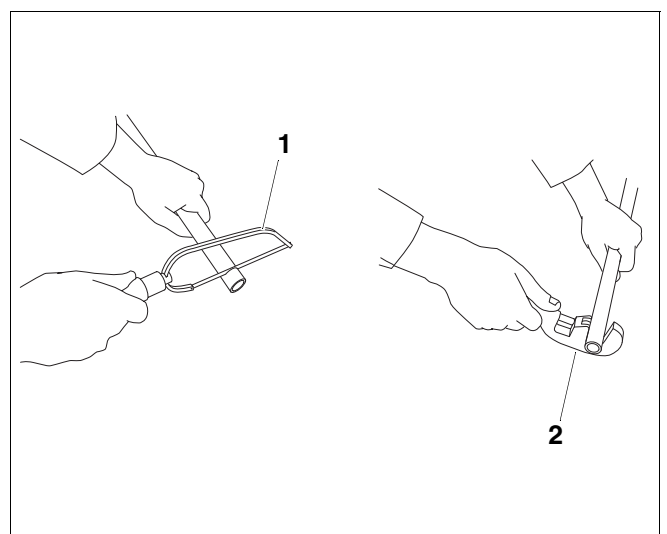

Fig. 1 Cutting to length
- Make a square cut through the copper pipe using a saw or a pipe cutter (Fig. 1, **item 1** and **2**).